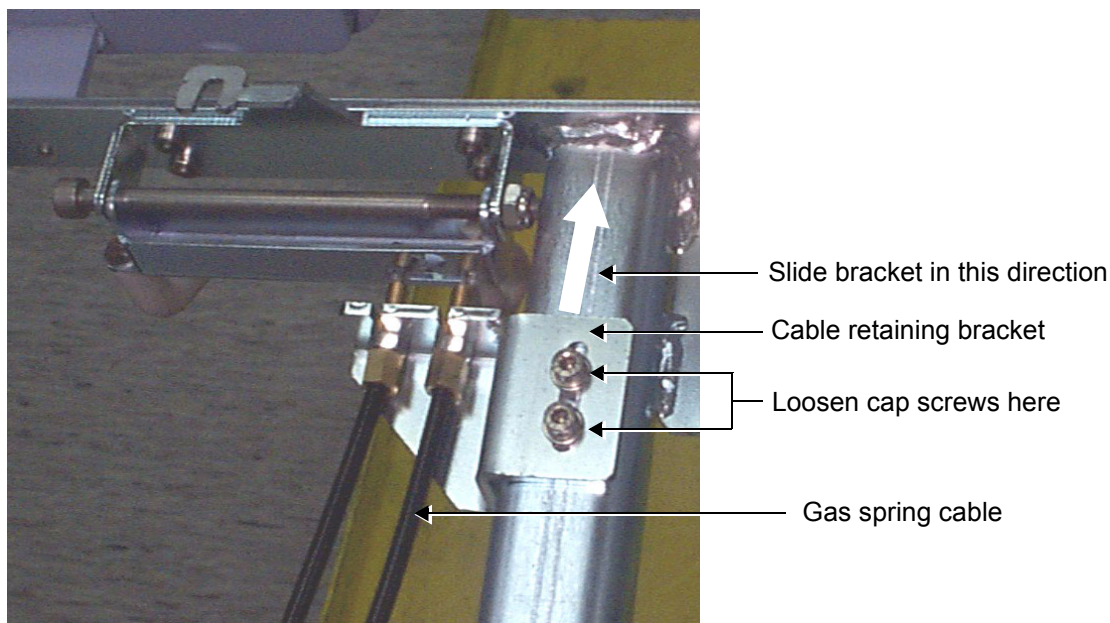

Figure 8-73 Gas Spring Cable and Retaining Bracket
- 8.) Slide the cable retaining bracket *backwards* (previously moved forwards) along the chassis beam sufficiently to regain tension on the cable. Using an M4 Allen key, tighten the two cap screws on the bracket to hold it firmly in position - refer to Figure 8-73 on page 8-90.